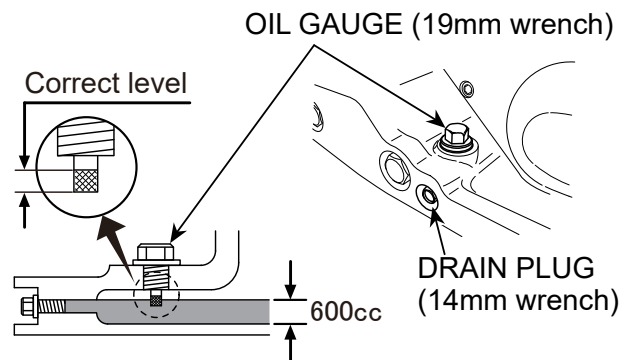

Figure 8. Vibrator Oil Check
2. Check vibrator oil level by removing the oil plug (vibrator oil gauge) as shown in Figure 8. Clean the oil gauge and re-thread back in. Remove the oil gauge again and confirm oil level does not exceed the cross hash of the oil plug. **DO NOT OVERFILL.**